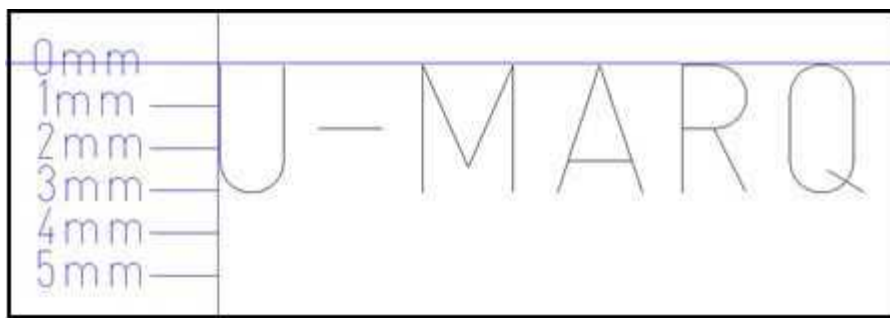

Figure 3
- 6 Pick and drag the text to the bottom right portion of the cross by Clicking On the text to select it and then Dragging to the bottom right, see Figure 3.